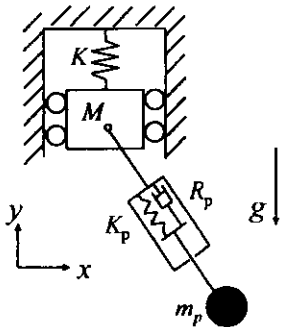

Figure 4
4. Draw a block diagram model of the system shown in Figure 4. The block of mass M can slide up and down without friction. The pendulum rod can extend or shorten axially. A friction-less revolute joint is used to suspend the pendulum. There can be large motions and the system is non-linear. Assume that the pendulum rod is massless and the bob is a point mass. Gravity must be included in the model.